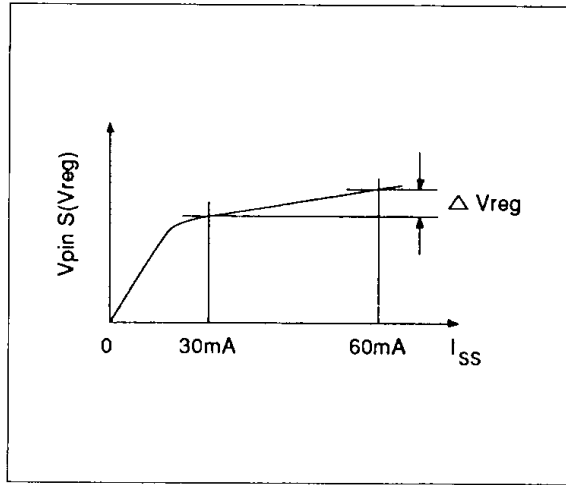

Figure 1.
- Notes: 1. See Figure 1. And R_d can be calculated as: